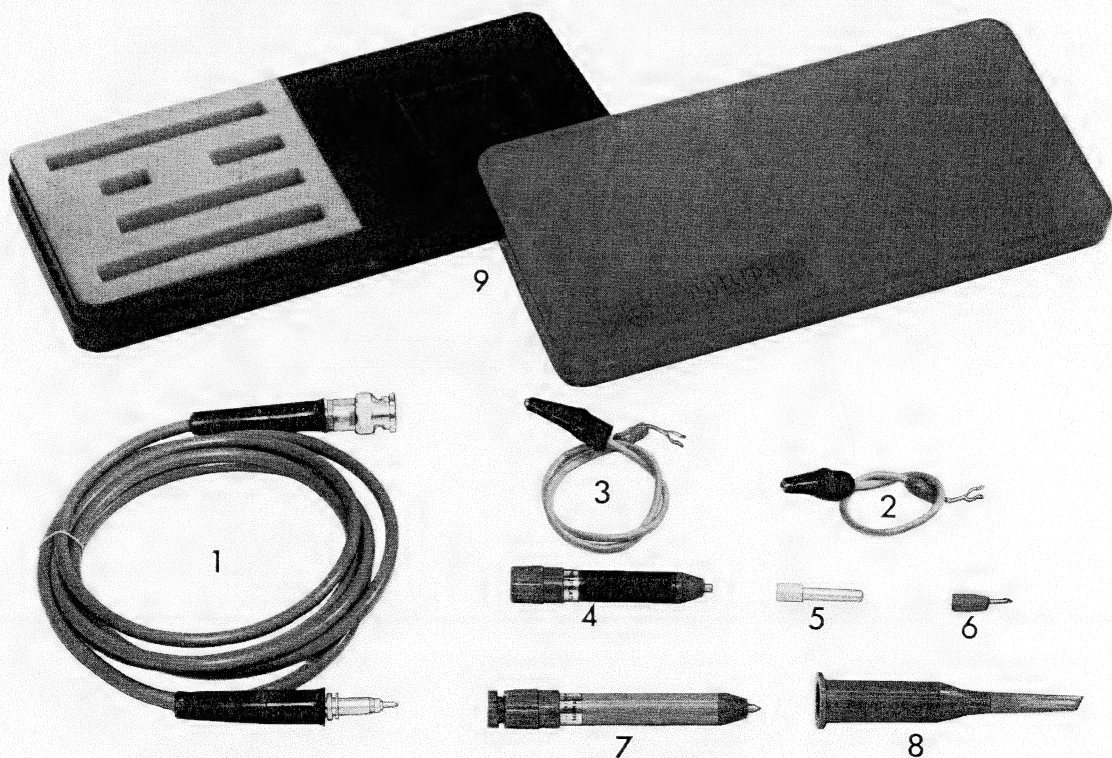

Fig. 3.14. Attenuator probe set PM 9326 (PM 9327)
3.5.1 Attenuator probe sets PM 9326 and PM 9327 (Fig. 3.14.)
1 probe cable	Fig. 3.14. item 1
1 earth lead 15 cm	Fig. 3.14. item 2
1 earth lead 30 cm	Fig. 3.14. item 3
1 measuring probe 1:1 (black)	Fig. 3.14. item 4
1 test pin	Fig. 3.14. item 5
1 test hook	Fig. 3.14. item 6
1 attenuator probe 1:10 (grey)	Fig. 3.14. item 7
1 test clip	Fig. 3.14. item 8
1 box	Fig. 3.14. item 9